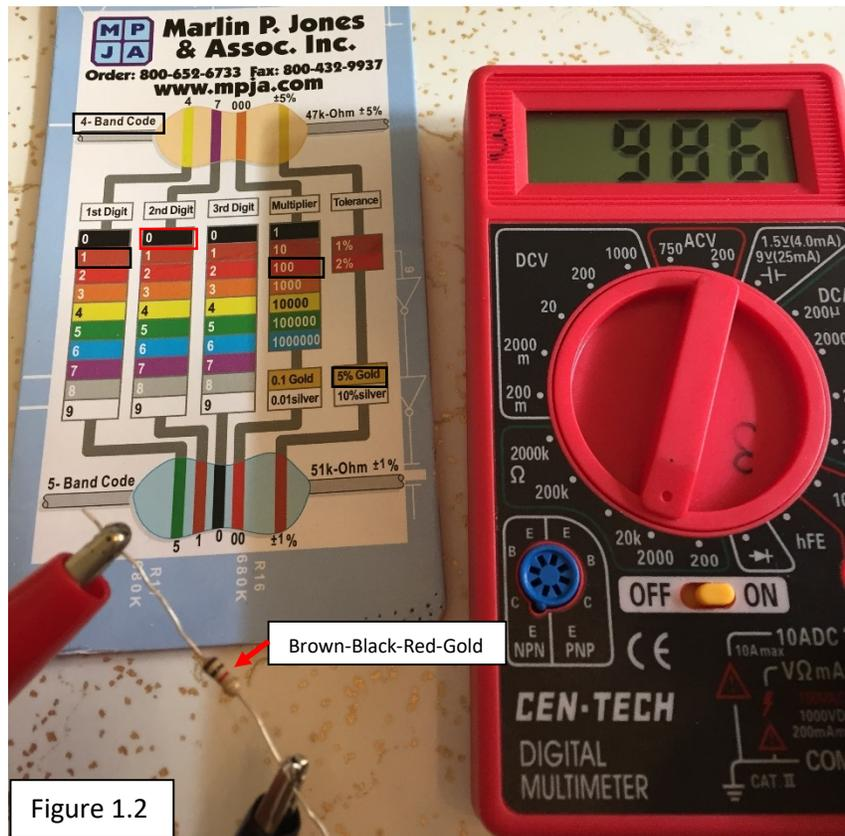

Figure 1.2
The resistor in Figure 1.2 has **Brown-Black-Red** for the first 3 bands which means it has a nominal resistance value of  $1,000 \Omega$  and the gold 4th band indicates it has a 5% tolerance. Figure 1.2 shows how to measure a resistance value with a Multimeter. Figure 1.2 shows the Multimeter is in the Ohms mode with a resistance setting of  $2,000 \Omega$ . That setting represents the largest value of resistor than can be read before the setting needs to be increased. The value that the Multimeter in Figure 1.2 reads for the nominal  $1,000 \Omega$  resistor is  $986 \Omega$ , which is well within the 5% tolerance.
*Example 1.6) If the first three bands of a 4-band resistor have a color code Orange-Red-Green and if this resistor is connected to a 9 V battery, determine the following: Nominal resistance value, the total conductance in the circuit, and current through the resistor. Use the value associated with each color band, as shown in Figure 1.2.*